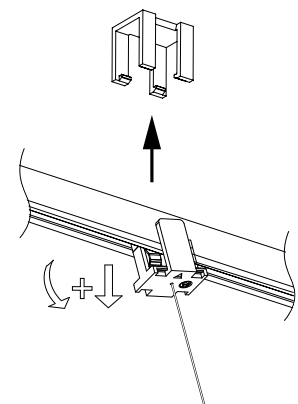

Fig. 7
2. Attach the **Hub Cover** to the Hub, making sure the counter-sunk holes on the cover are facing inward. Secure using two small **Thumb Screws** (Fig. 7).
6. To remove, uninstall cap, tilt hanger, and pull downward from the Power Bar (Fig. 7).
1. Place a rubber **O-Ring** on each **Arm** on the **Parachute Reflector Rrim** (Fig. 7).
2. Bend the **Parachute Reflector** and pass each hole over an **Arm** (Fig. 7).
3. Place another O-Ring on each **Arm** and adjust the o-rings to set the desired reflector position (Fig. 7).